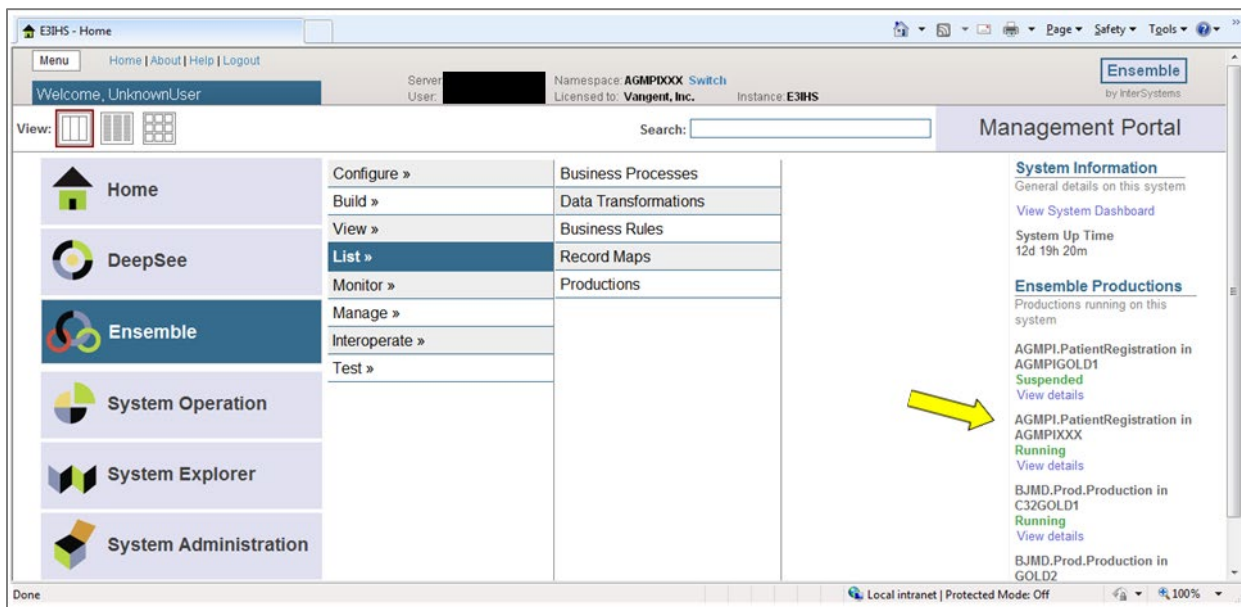

Figure 6-9: **Management Portal** page showing the **AGMPI.PatientRegistration** production instance with a status of Running
- For an alternative view of the currently running production, click **Ensemble** to display the production instance table on the **Management Portal** page, as shown in Figure 6-9.